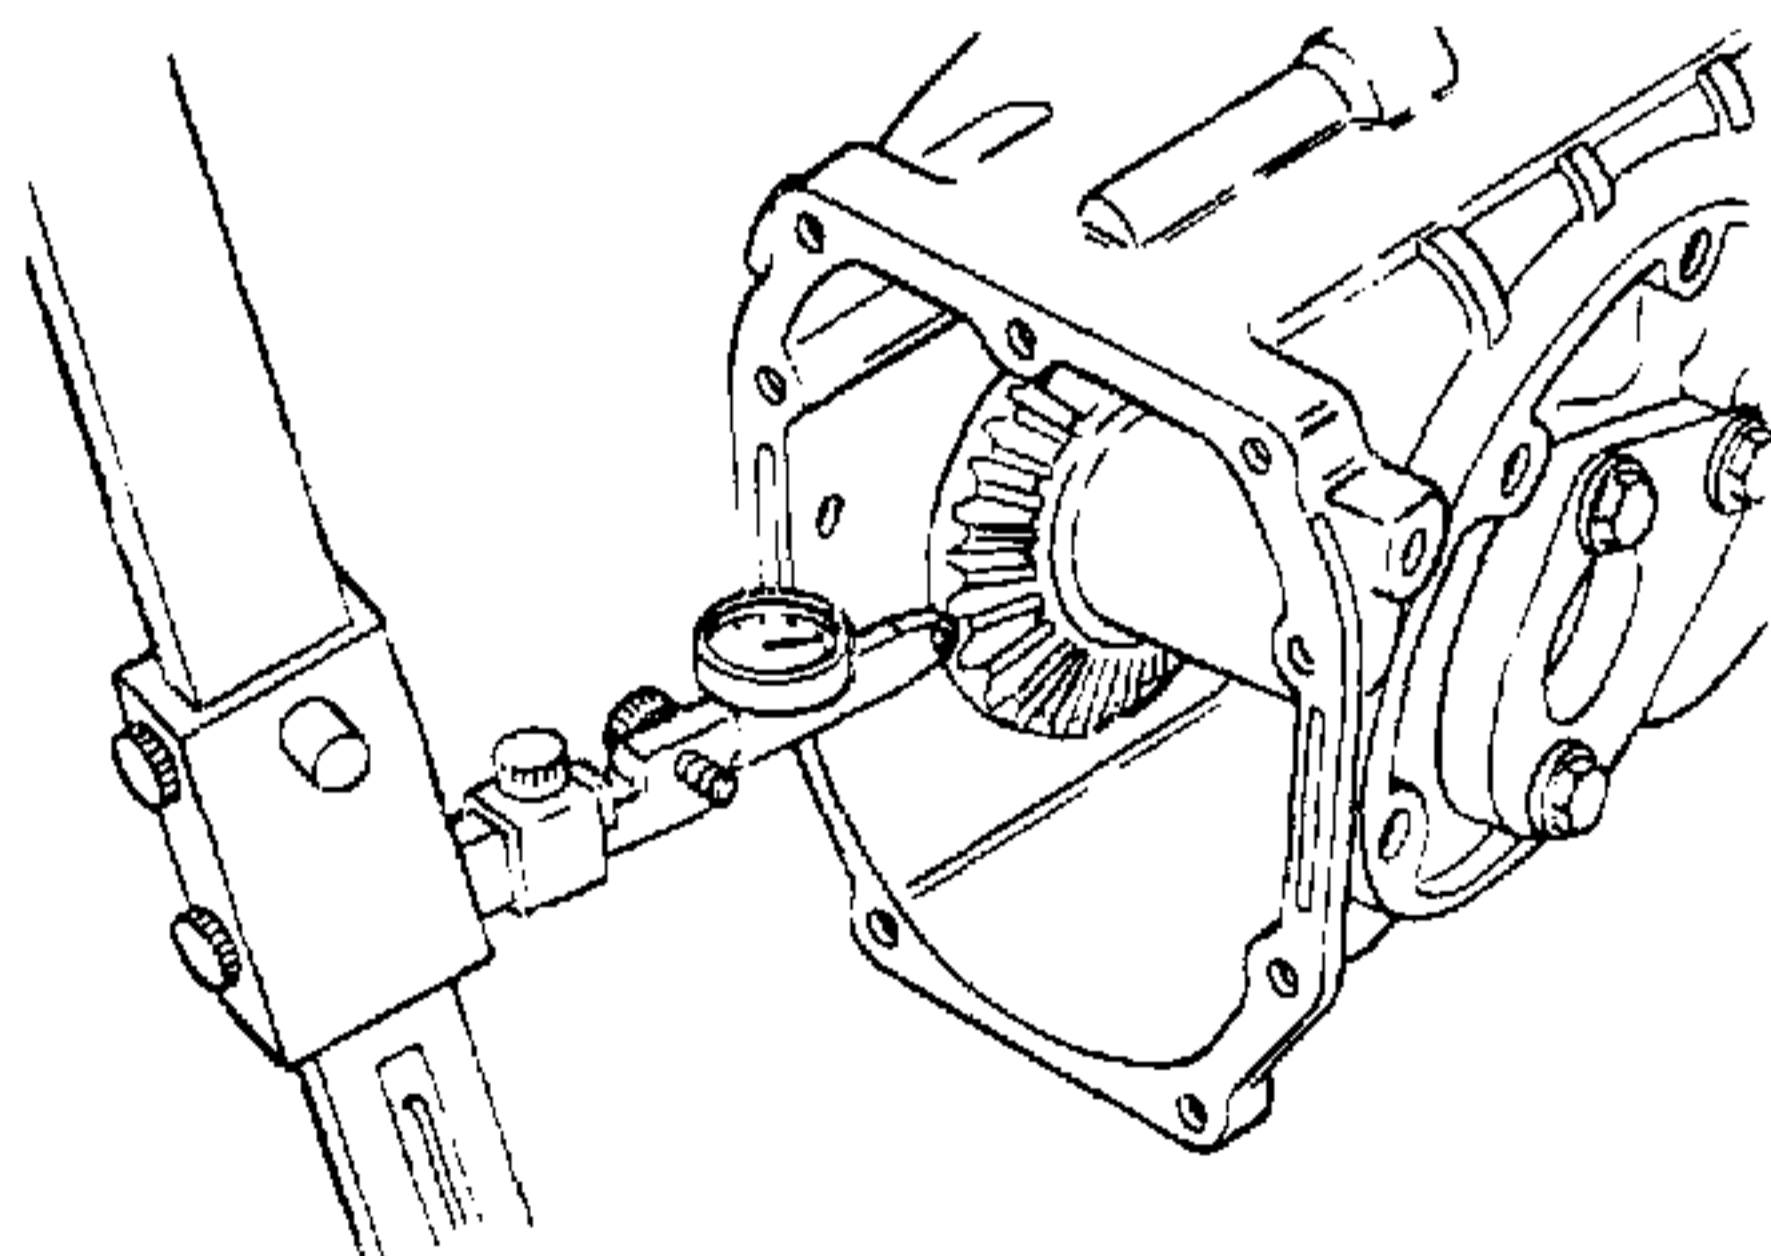

Figure 5-76. Measuring Ring Gear to Pinion Backlash.
- b. Ring gear to pinion backlash – .003 to .008 inch. Refer to Figure 5-76.